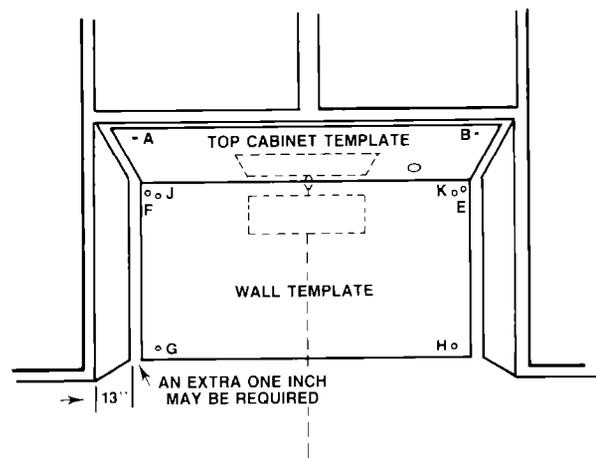

Figure 8
1. **Center wall template** between side cabinets by lining up center line on wall with center line on wall template. make sure the minimum width is 30"\*, and the top of the template is located a minimum of 30" above the cooking surface. Tape or tack wall template to the wall. (See figure 8.)
2. **Place top cabinet template** on cabinet bottom and align center line with center line of wall template. Tape or tack template to cabinet. (See figure 8.)